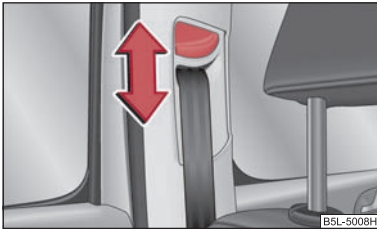

Fig. 4 Front seat: Seat belt height adjuster
- Move the height adjuster in the desired direction up or down ⇒ fig. 4.